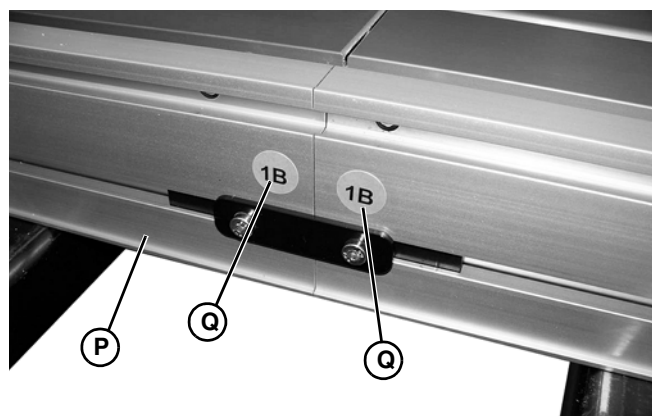

Figure 4
1. Locate and arrange conveyor sections by section labels (Figure 4, item Q).